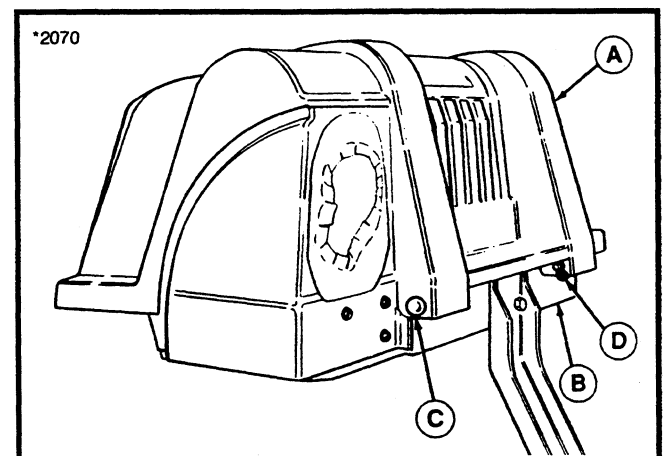

Figure 2.
Guide front of bracket assembly under front spacers and push forward so assembly will rest on rear spacers. If assembly is too bulky to install, separate grass bag cover (A, figure 2) from upright supports (B) by removing clips (D) and long clevis pins (C). Reinstall cover after support is installed.